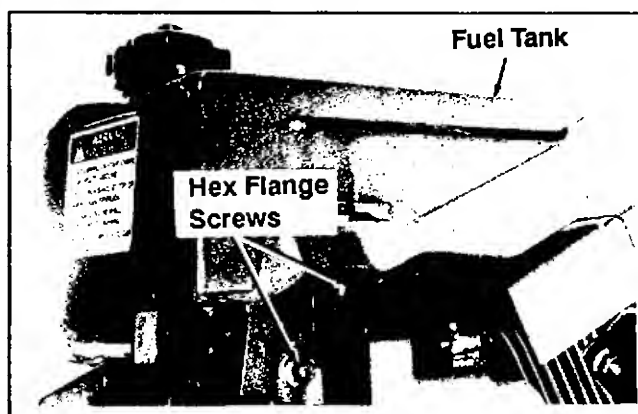

Figure 11-31. Installing Fuel Tank (CH5).*
2. On CH5, secure the fuel tank to the engine using hex. flange screws. Torque the hex. flange screws to 17 N•m (150 in. lb.). See Figure 11-31.